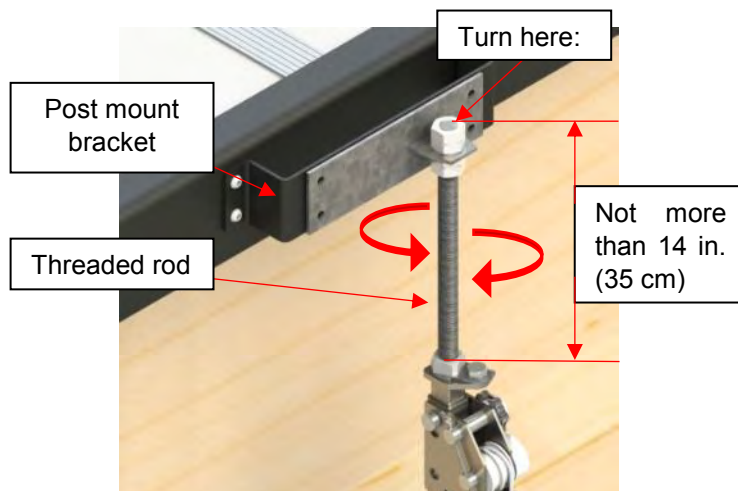

Figure 95
- 15) The jack adapter located at the top of the jack can be adjusted by turning the large threaded rod. Adjust the height so that they match the cover mount brackets holes. Use the adjustable wrench 15/16 in. (24 mm) head. Repeat this step for all four jacks (Figure 95).
- ♦ The threaded rod must not be unscrewed more than **14 inches (35 cm)**. (Measure the length from the top of the threaded rod nut to the top of the bottom nut (Figure 95).)